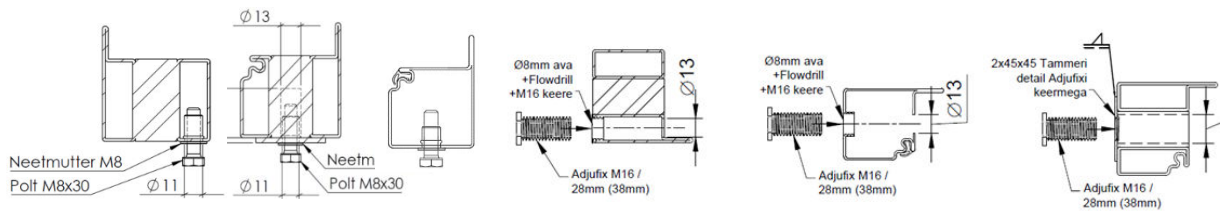

FIGURE 6 (alternative fixing solution)
- M8x30 bolts placed in the corners can be used as an alternative fixing solution (see Figure 6).